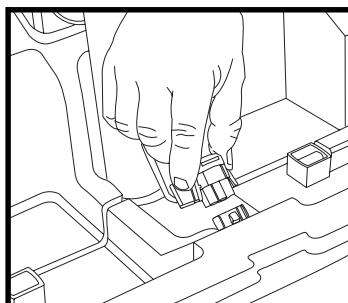

Figure 16. Front-To-Rear Harness
7. Unplug the front-to-rear harness. See figure 16.